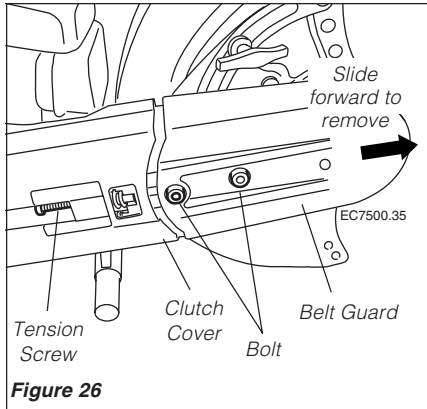

Figure 26
1. Loosen the tension screw. Loosen the two bolts on the belt guard and remove the belt guard by sliding it to the right. See Figure 26.